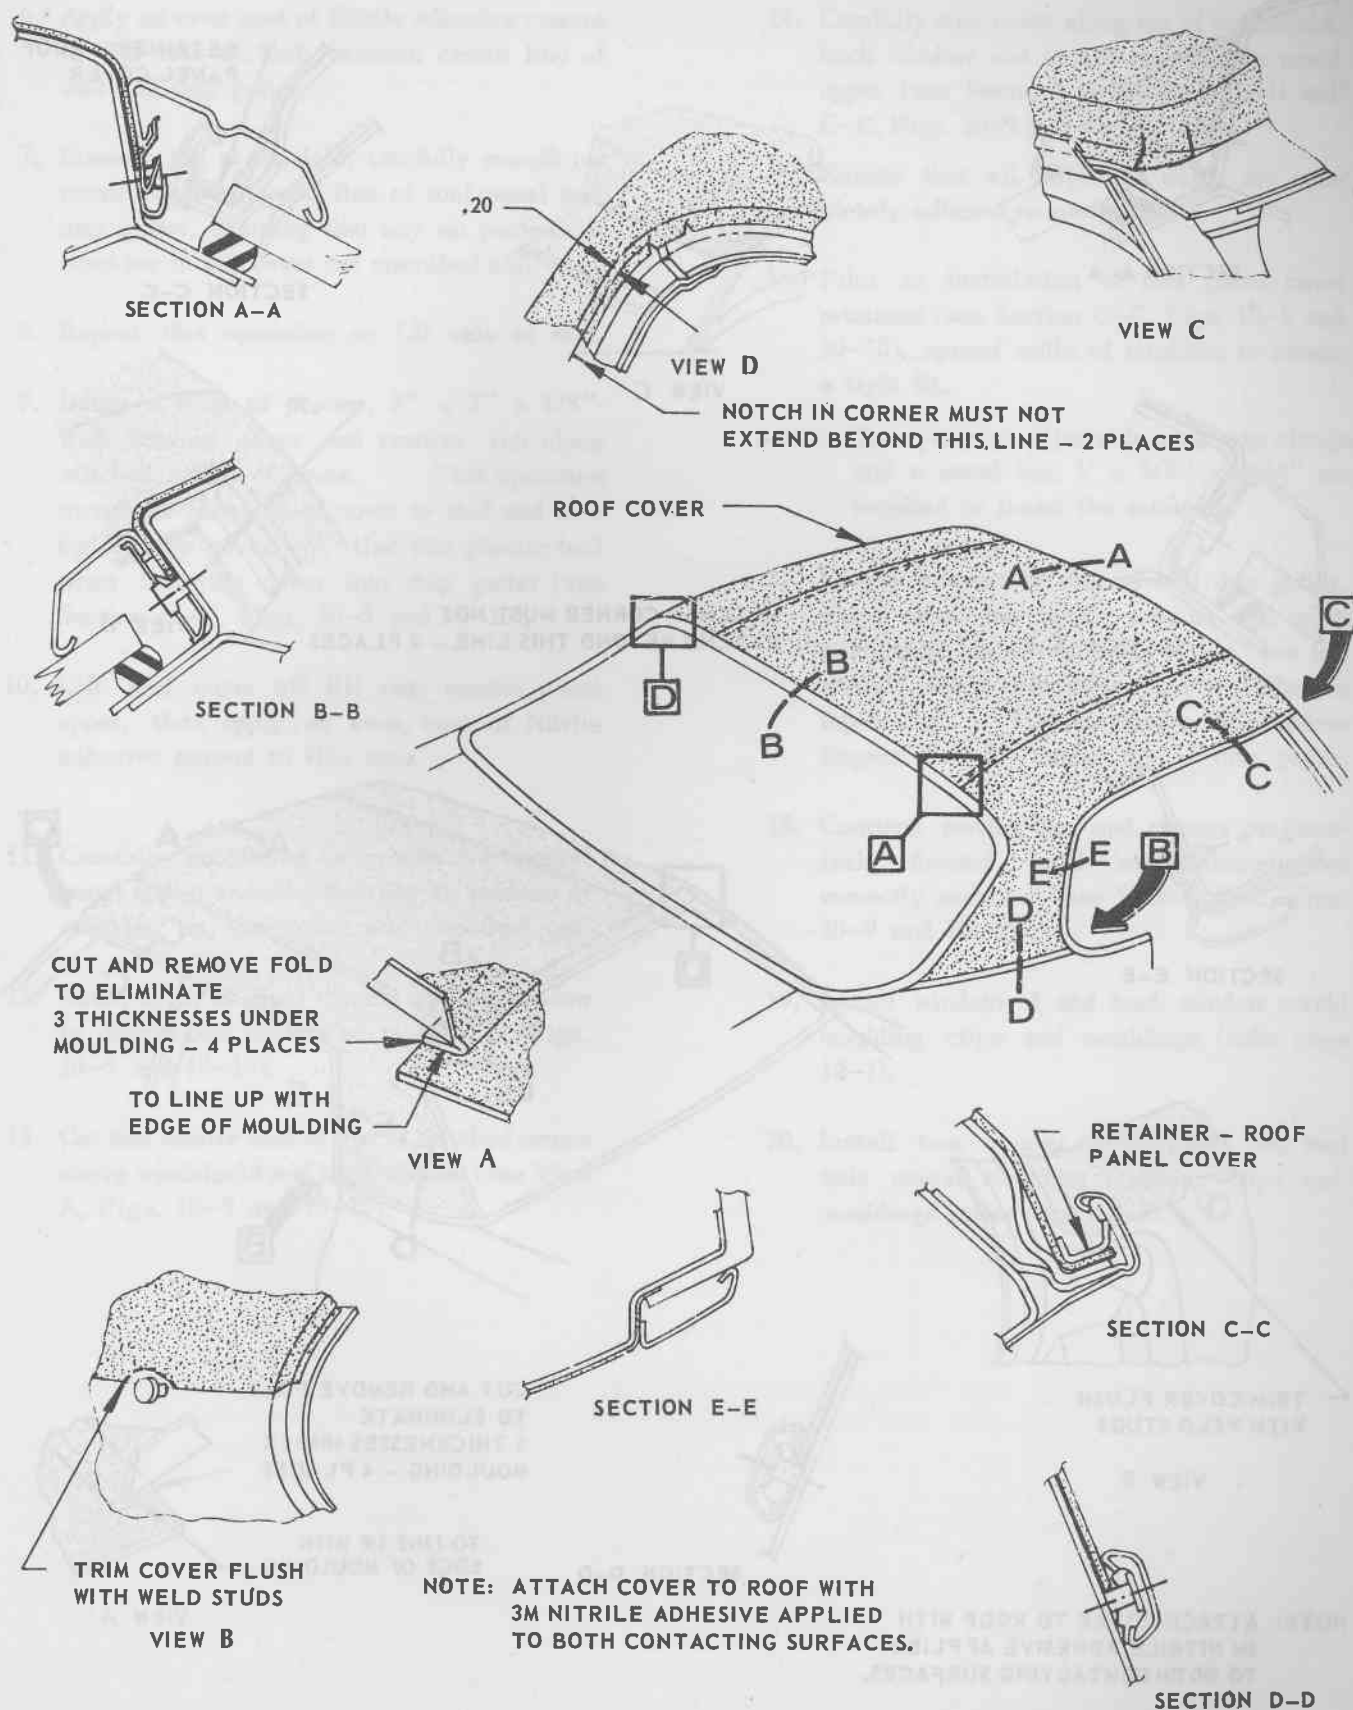

FIG. 10-9
4. Remove roof panel cover retainers (see Section C-C, Figs. 10-9 and 10-10) by inserting tip of thin, wide bladed screwdriver under inside (against cover) end of cover retainer and carefully easing retainer upwards, disengaging it from drip gutter.
5. Align front and rear markings of folded cover with centre line of roof, ensuring adequate over hang of material at windshield and back window reveal moulding weld studs (see Sections A-A and B-B, Figs. 10-9 and 10-10).
9. Using a strip of plastic, 8" x 2" x 1/8" with rounded edges and corners, rub along stitched seams of cover. This operation increases adhesion of cover to roof and also tightens up cover. Use this plastic tool when inserting cover into drip gutter (see Section C-C, Figs. 10-9 and 10-10).
12. Notch cover at upper corners of back window to dimensions illustrated in View D, Figs. 10-9 and 10-10).
13. Cut and remove fold at end of stitched seams above windshield and back window (see View A, Figs. 10-9 and 10-10).
14. Carefully trim cover along top of windshield, back window and around rear quarter panel upper (see Sections A-A, B-B, D-D and E-E, Figs. 10-9 and 10-10).
16. Prior to installation of roof panel cover retainers (see Section C-C, Figs. 10-9 and 10-10), spread walls of retainers to ensure a tight fit.
18. Continue moving bar and clamps progressively forward, until both retainers are correctly installed (see Section C-C, Figs. 10-9 and 10-10).